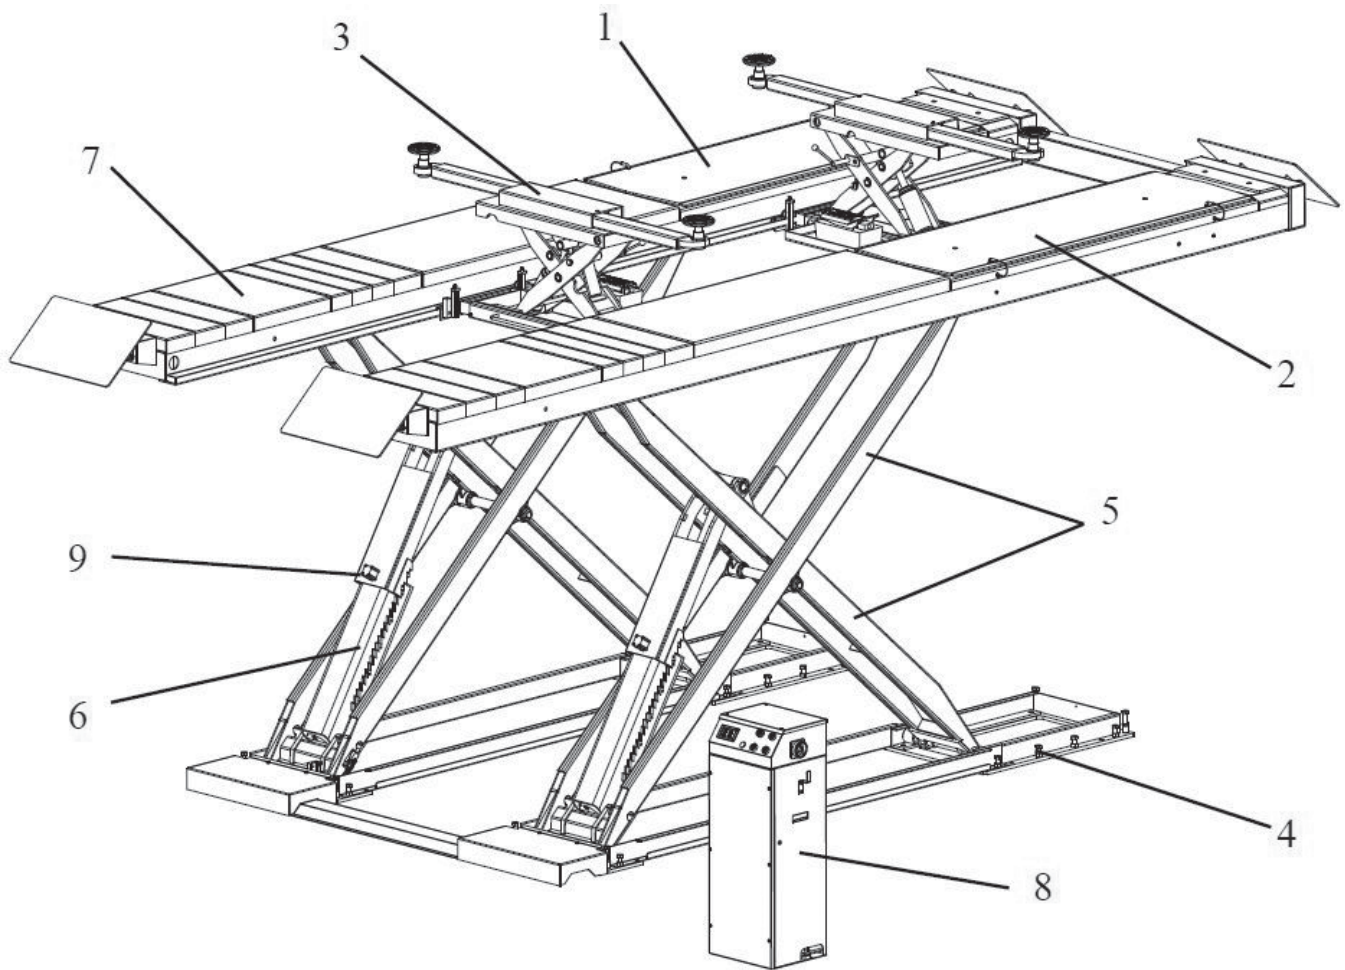

Figure 2 – Lift
4.1 Lift Description (Ref. Figure 2)
This chapter describes the lift's principal elements, allowing the user to be familiar with the lift. As shown in figure 2, the lift is composed of two runways P1 (1) and P2 (2) with two rolling jacks (3), anchored onto the floor by means of two bases (4). Runways are linked to the base by means of a scissors lifting system.